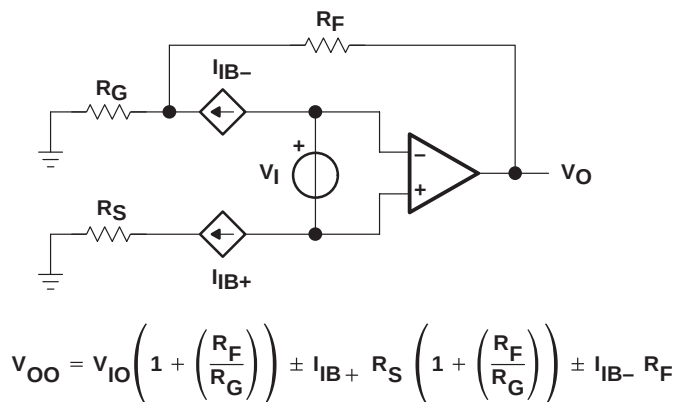

Figure 28. Output Offset Voltage Model
1. Prepare the PCB with a top side etch pattern as shown in Figure 28. There should be etch for the leads as well as etch for the thermal pad.